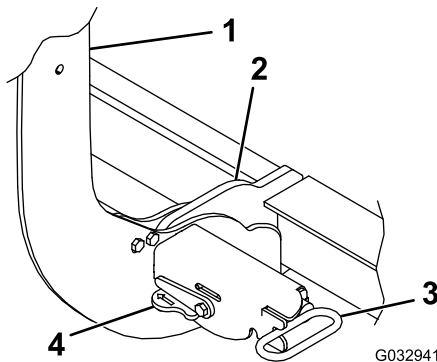

Figure 31
6. Ensure that both coupler spring pins have fully engaged the coupler (Figure 31).
3. Turn the levers on the couplers to the ON position (Figure 31).